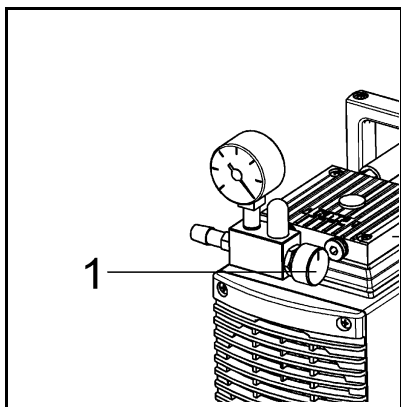

Fig. 8: Fine-adjustment valve
- ➔ Regulate the flow volume of the pump at the valve knob of fine-adjustment valve (see fig. 8/1).